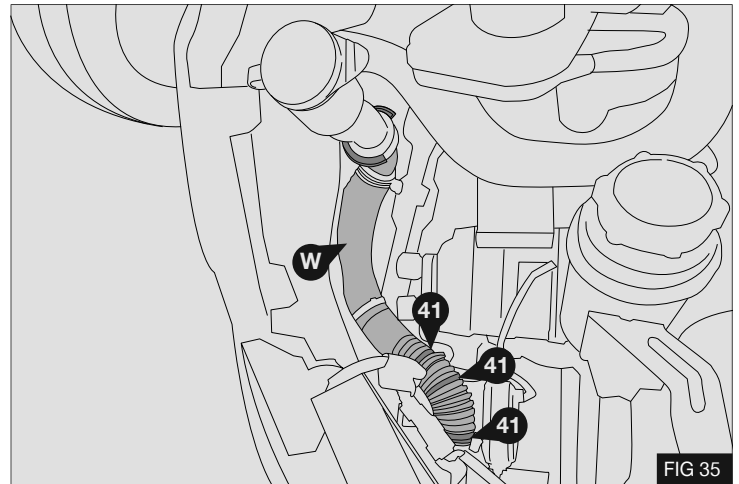

FIG 35
3. Fit the modified filler section (W) into its original support and reservoir. Secure hose (42) to the wiring harness using cable ties (41) to obtain clearance to the compressor and mountings. - Fig 35